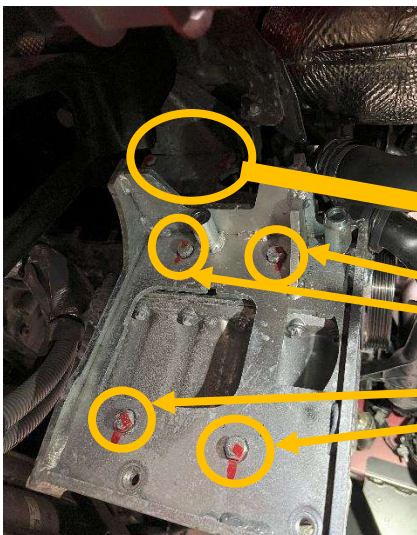

Figure 10
26. Remove the alternator mounting bracket. See figure 10